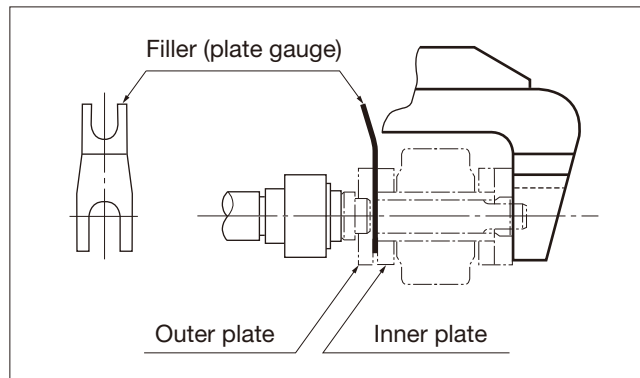

Fig. 9 Press fitting C-pins on one side
- 1) Set the jig and filler on the chain as shown in Fig. 9. The thickness of the filler will vary slightly depending on the variation in chain plate thickness, so consider the gap between adjoining plates when selecting which of the two thicknesses (included) you will use.